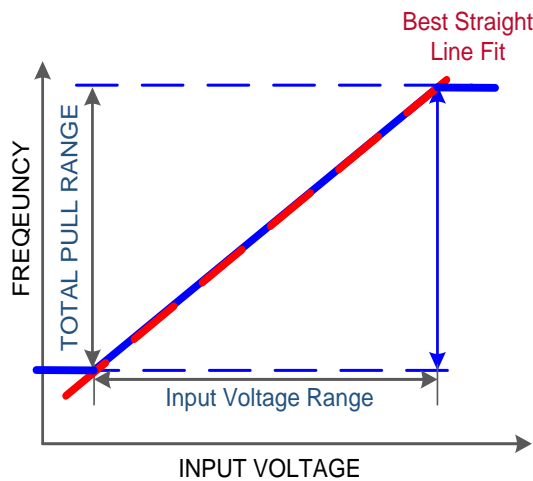

Figure 39. Typical SiTime VCTCXO Linearity
In any VCTCXO, there will be some deviation of the frequency-voltage (FV) characteristic from an ideal straight line. Linearity is the ratio of this maximum deviation to the total pull range, expressed as a percentage. **Figure 39** below shows the typical pull linearity of a SiTime VCTCXO. The linearity is excellent (1% maximum) relative to most quartz offerings because the frequency pulling is achieved with a PLL rather than varactor diodes.